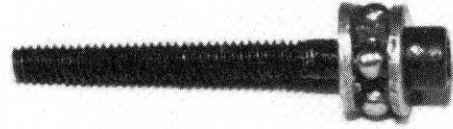

Fig. 38
□ **Fig. 38** Now take the balls and place them all around the bolt between the two washers. The grease will hold them in place.